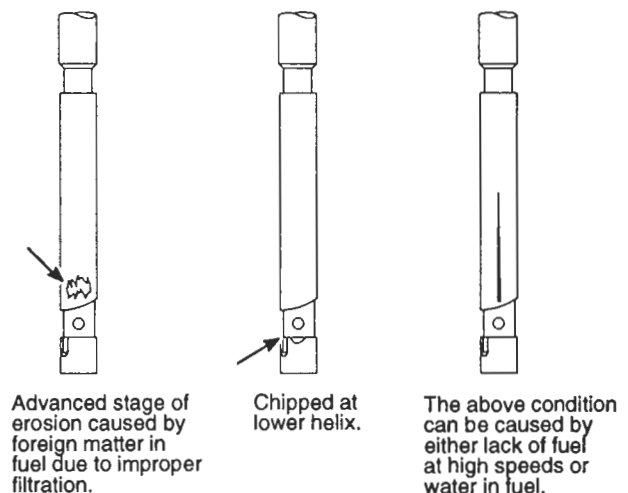

Figure 21. Unusable Injector Plungers
- a. Check the plunger for corrosion or varnish, scoring, scratching or wear and chips along the edge of the helix (Figure 21.)